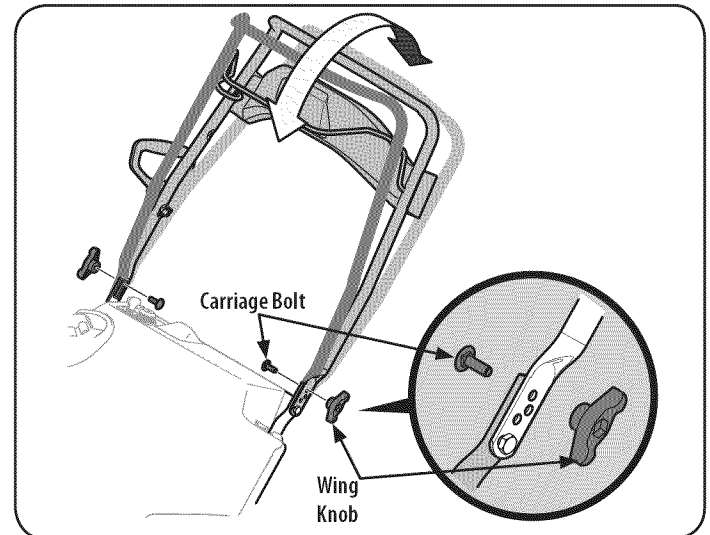

Figure 3
3. The handle can be set in three different position. Place the handle in the desired position and then install wing knobs and carriage bolts in the appropriate hole and secure the handle. See Figure 3.